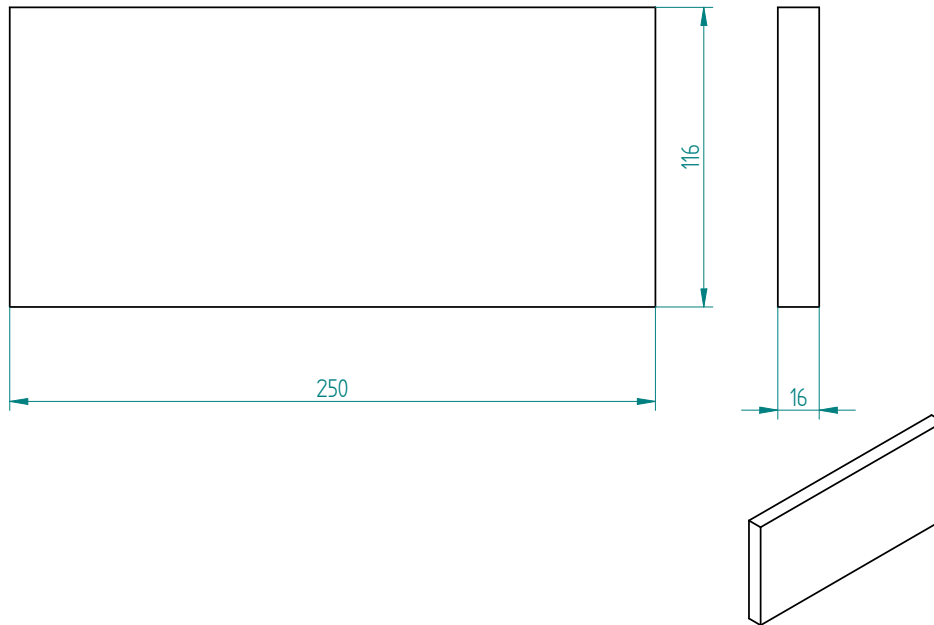

Figure A.6: Shaped part : **face-2-outsourcing** for **perpendicularator** tool
1. order the part in a joinery see figure A.6, page 166 for dimensions ;